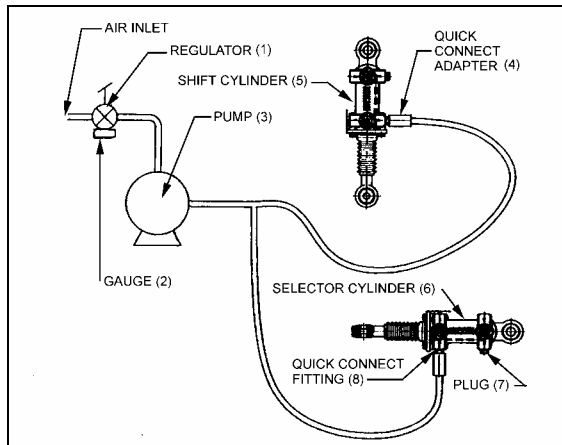

FIGURE 13: DIAPHRAGM PUMP CONNECTION
3. Connect the diaphragm pump and the quick connect adapters to both cylinders (4 and 8, fig. 13);
- Loosen by $\frac{1}{2}$ to 1 full turn both the quick connect and the plug (7 and 8, fig. 13) on selector cylinder;
5. Use regulator (1, fig.13) and gauge (2, fig.13) to obtain 60 psi at pump inlet;
9. Close quick connect and plug (7 and 8, fig. 13) on the selector cylinder;
10. Check hydraulic shifter assembly; move the shift lever from left to right and check if the selector cylinder (6 fig. 13) moves accordingly;
11. Loosen by $\frac{1}{2}$ to 1 full turn both the quick connect and the plug on shift cylinder (fig. 13);
16. Check hydraulic shifter assembly; move the shift lever from front to back and check if the selector cylinder (6 fig. 13) moves accordingly;